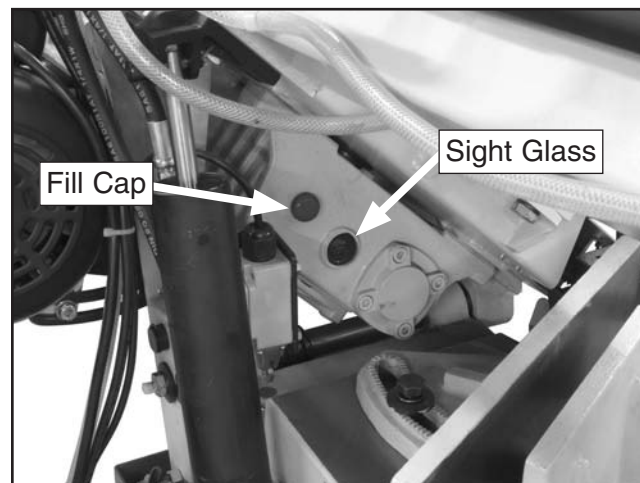

Figure 53. Gear box.
6. Open the fill cap and fill the gearbox with oil until you see the oil level reach the halfway point in the sight glass (see **Figure 53**).